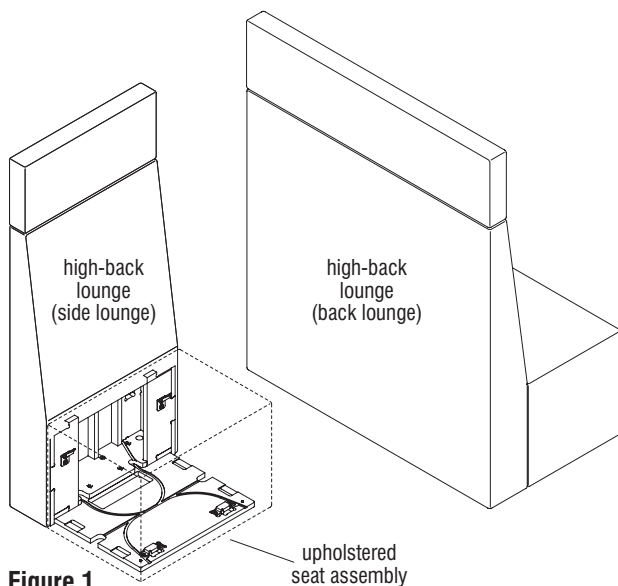

Figure 1
1. Remove the upholstered seat assembly on the "side" lounge before proceeding to the next step if required. Reference MyPlace Lounge Furniture - 48" & 60" High-Back Lounge - Operating Instructions (KI-OI-000013) (Figure 1).